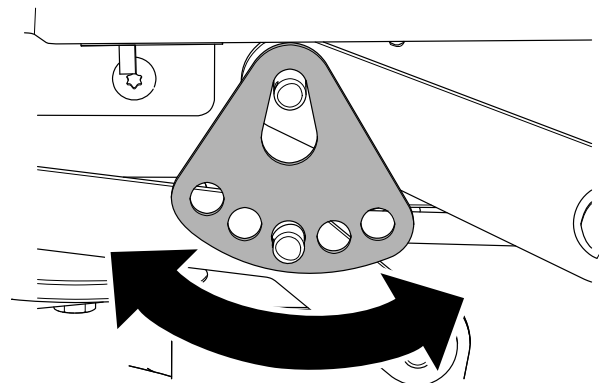

**Figure 66**
6. Remove the hairpin cotter and washer from the lower lift-arm pin (Figure 66).